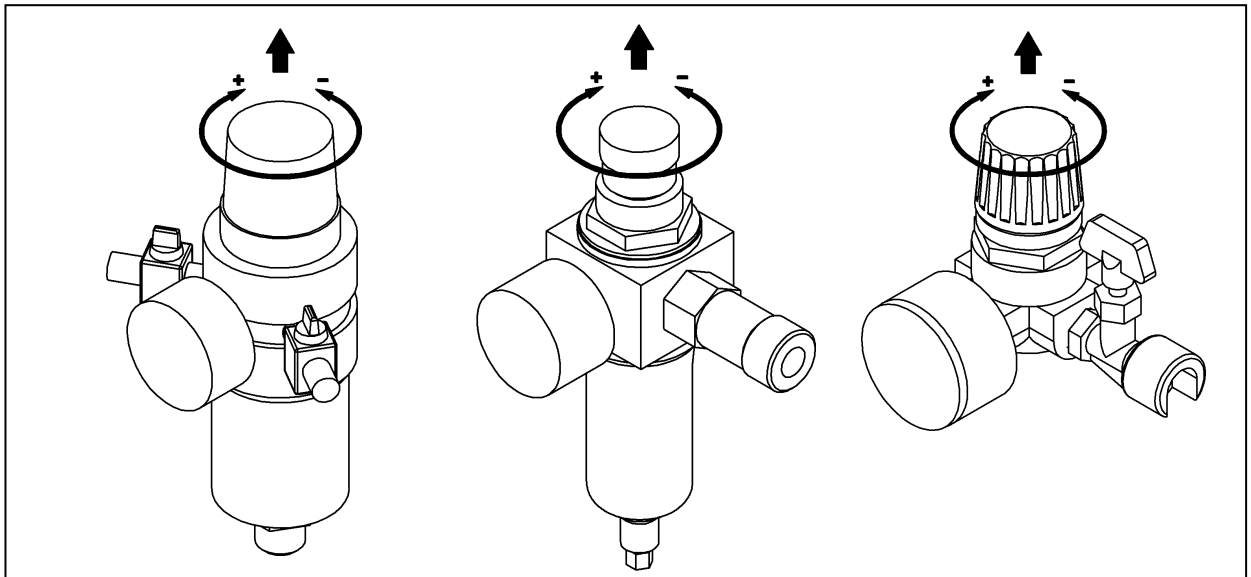

Figure 3
7.3.1 The pressure in the connected pneumatic device is regulated by the pressure regulator as follows (**Figure 3**):